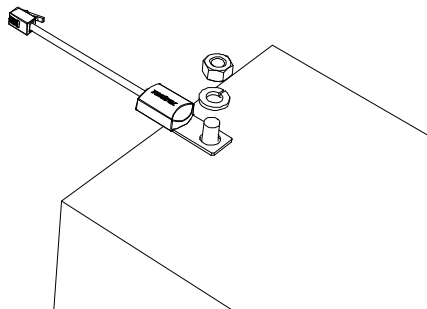

Figure 2-14 Attaching the BTS to a Battery Terminal
3. Connect the ring terminal on the BTS directly to the negative battery terminal (recommended), or use the adhesive backing on the sensor back to attach the sensor to any side of the battery to be monitored. See Figure 2-14.